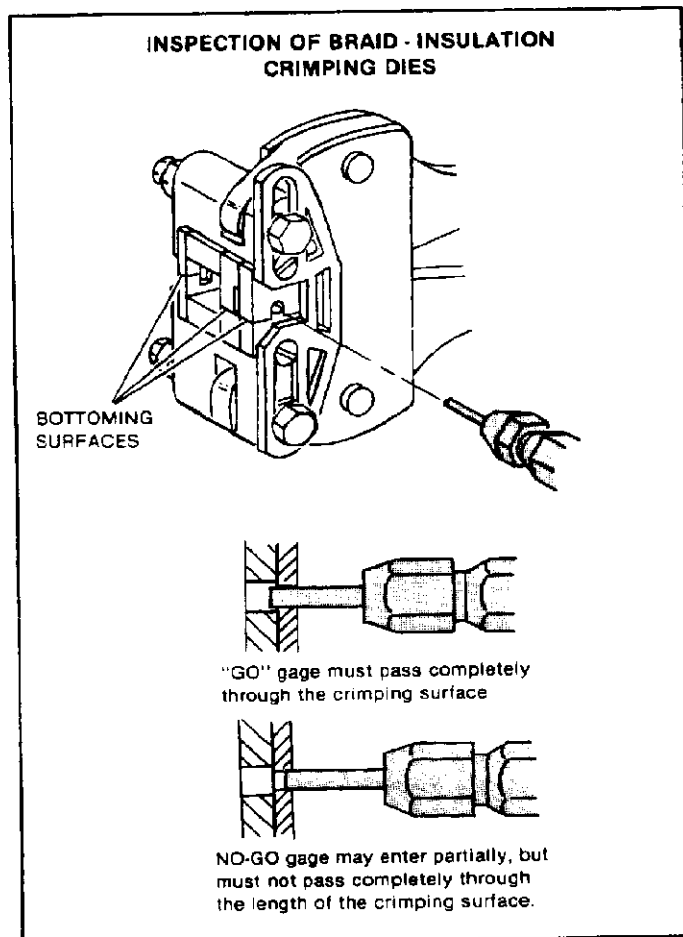

Figure 16
- With crimping jaws bottomed, check braid-insulation crimp die closure using proper plug gage. Hold gage in straight alignment with tool and carefully try to insert, without forcing, the GO member, then the NO-GO member. See Figure 16. The GO member must pass completely through the crimp die closure.